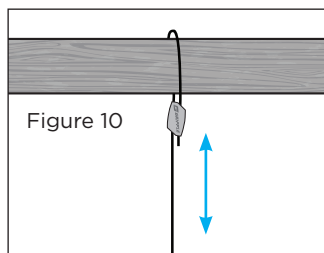

Figure 10
9. Adjust height (see Figure 10).